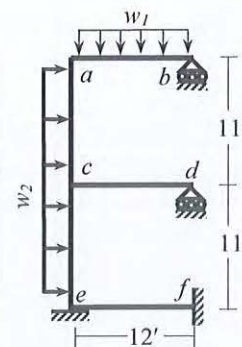
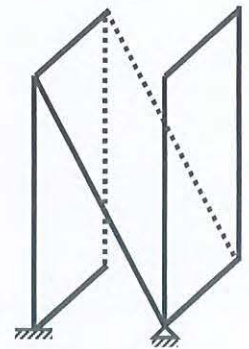

Fig.4
Fig.5
4. Use the Energy Method to calculate the load (i) w_1 needed to form beam mechanism, (ii) w_2 needed to form the sidesway mechanism in the frame *abcdef* loaded as shown in Fig.4 [Given: $M_P(\text{beam}) = 250$ k-ft, $M_P(\text{column}) = 280$ k-ft].
5. Determine the degree of kinematic indeterminacy (**doki**) and show the corresponding deflections and rotations of the 2D frames (Fig.4) and 3D frame (Fig.5) for the following cases